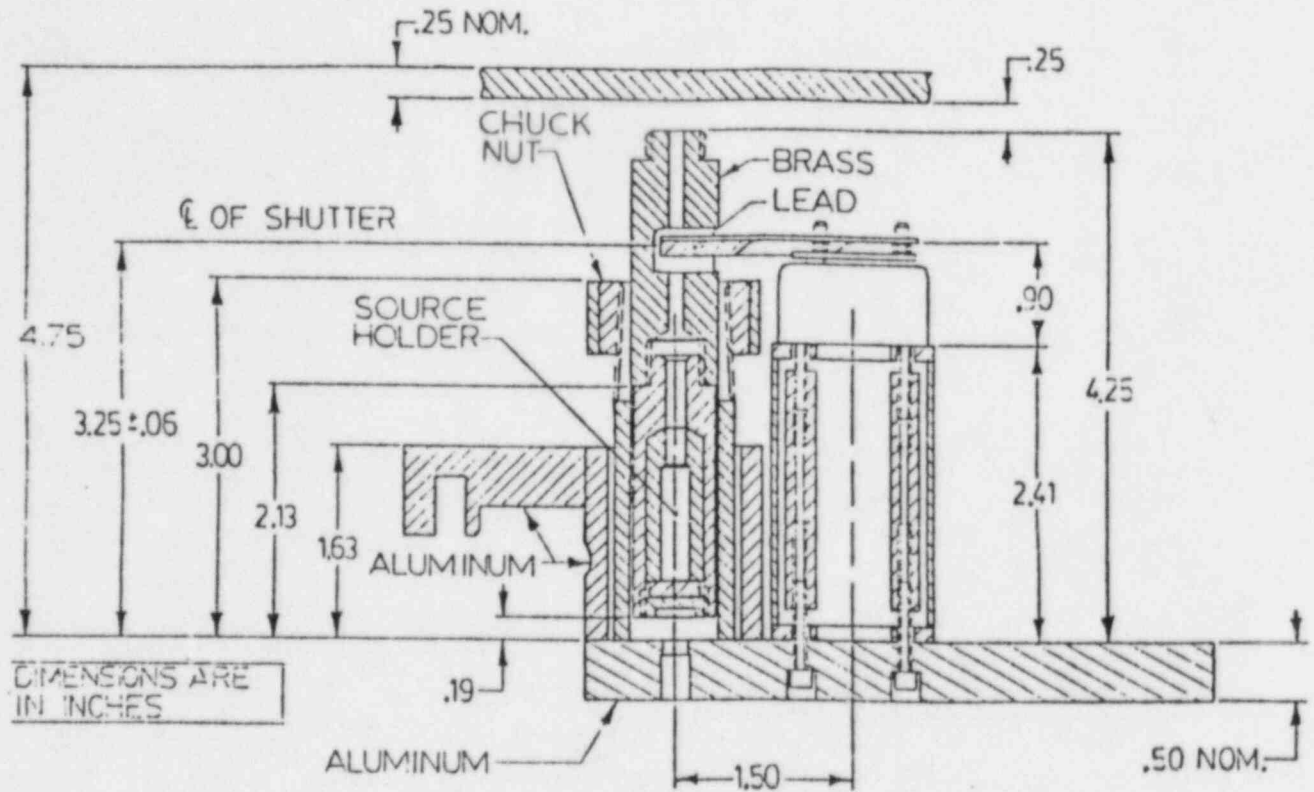

FIGURE 10
3. Place a lead source holder cap onto the source collimator (Fig. 10 and 11).
3. Remove the lead cap from the source holder and place it on the brass collimator provided with the system. Thread the source holder onto the base of the collimator. Do not force the collimator onto the source holder or it may cross-thread. The source collimator and holder can now be handled as a single unit (Fig. 10).